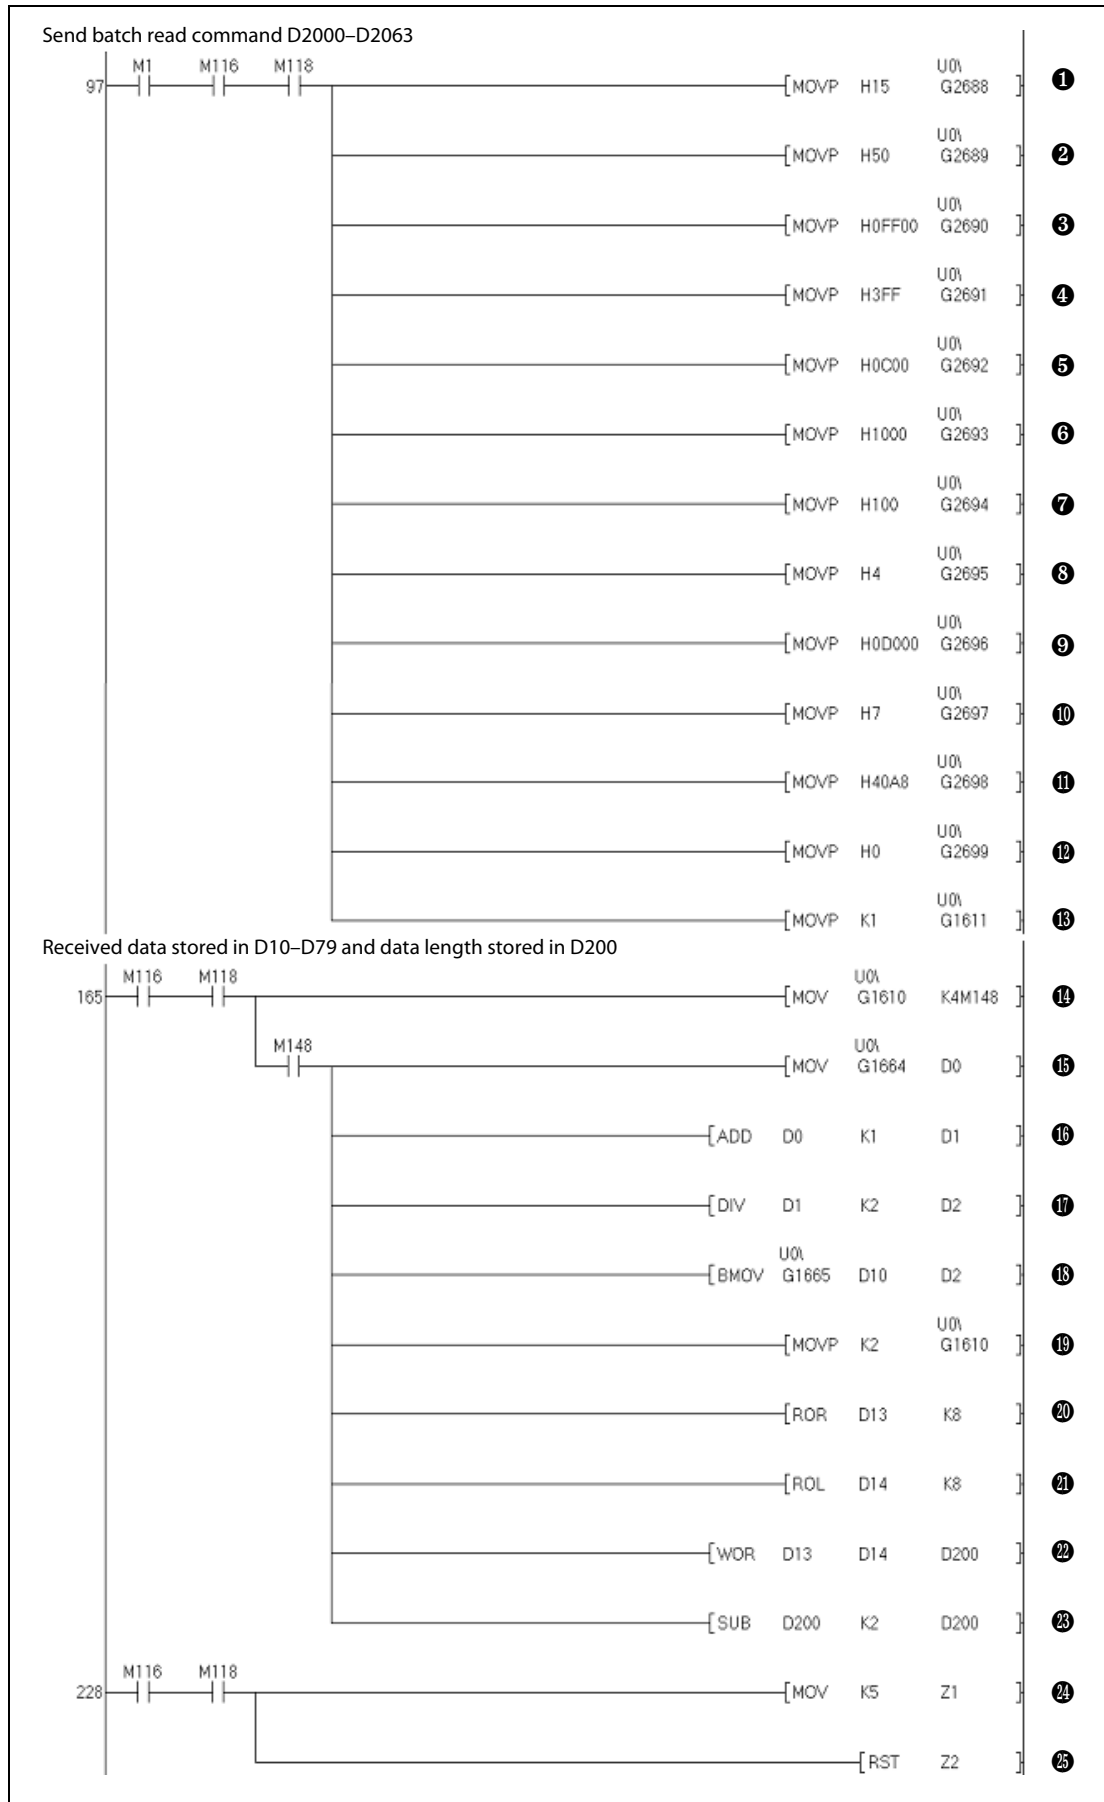

Fig. 5-14: Ladder program (2)
Tab. 5-9: Description of the ladder program (2) in fig. 5-14